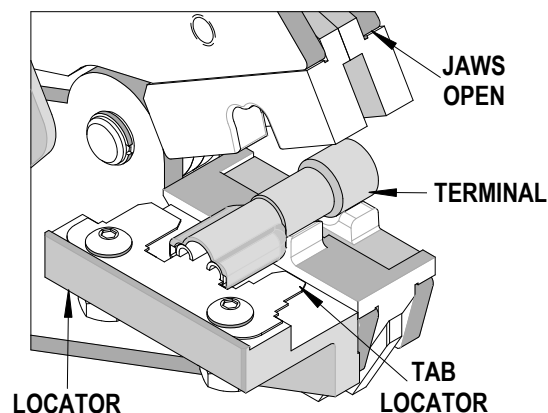

Figure 1
2. Push the terminal onto the tab locator all the way to the stop in the color-coded nest. The barrel of the terminal should be facing up. See Figure 1.